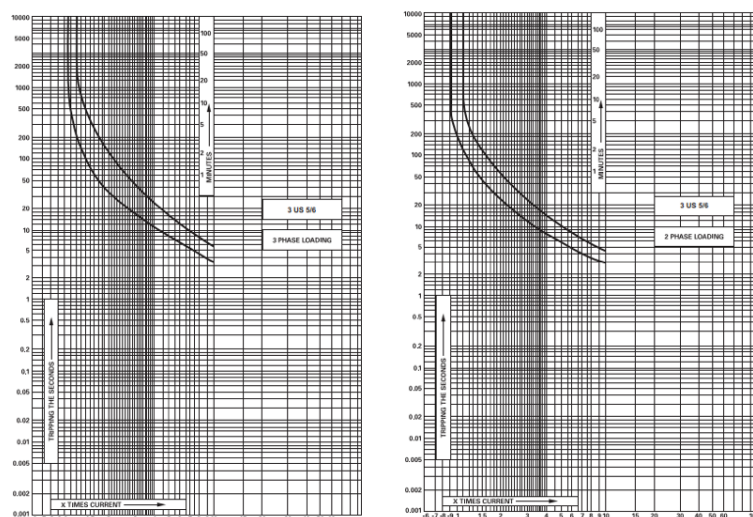

Fig. 6: Operating characteristics of 3UW/3UA/3US relays
- Start the motor and let it run for 30 mins. Then gradually reduce the relay settings till it trips. Set the relay at a slightly higher value than this setting. Overload relay characteristics shown in Fig. 6 can be used to estimate the average tripping time at different multiples of set current.
The given characteristics (Fig. 6) are average values of all ranges and sizes of bimetal relays and are mainly intended to indicate the inverse time current characteristics & tripping times of the same. The tripping times shown are for relays starting from the cold state. At operating temperatures (heated at rated current) these are reduced to about 25% of the value obtained from the characteristics.